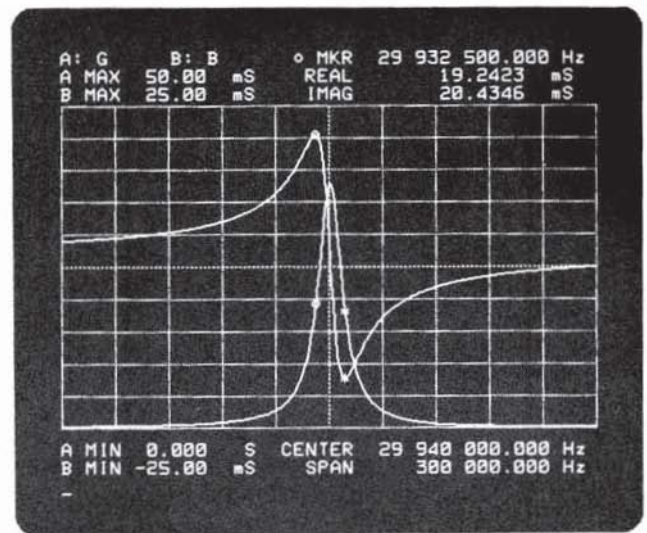

Figure 18. G and B Frequency Characteristics of a Resonator
4. DISPLAY → menu → A SCALE LIN → AUTO SCALE A → more 1/3 → AUTO SCALE B (See Figure 18.)